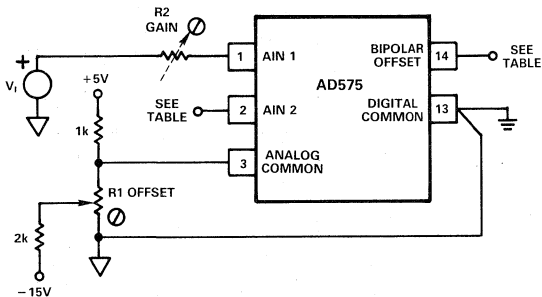
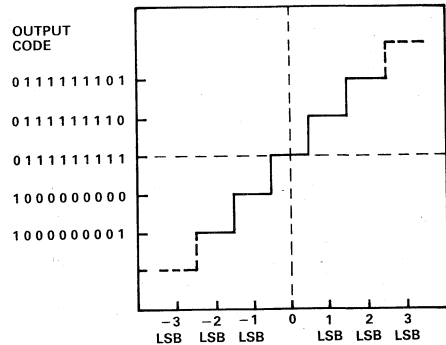

Figure 3. AD575 Input Circuit Showing Offset and Gain Adjustment
Figure 4. AD575 Transfer Characteristic (Bipolar Operation)
The AD575 can be configured for unipolar or bipolar operation on 10V span or 20V span input signals. The appropriate input range is selected by connecting pins 2 and 14 according to the table of Figure 3.
The AD575's low offset and gain errors (shown in the Specifications) are adequate for most applications. For these cases, a fixed gain resistor (R2 in Figure 3) is the only external component, in addition to any power supply decoupling that may be required. Pins 3 and 13 should be connected directly together.
Figure 3 shows a trimming circuit that can be used to adjust the offset to zero, using the appropriate value of the R1 potentiometer as shown in the table. If gain trim is required, R2 should also be replaced by the appropriate potentiometer as shown in the table.
- ⊗ If the Gain Error needs to be trimmed, the gain resistor should be replaced with a potentiometer according to Figure 3. The nominal location of the low side transition of the full scale code (000000000) in unipolar mode is full scale minus 1LSB (9.99V for 10V span, 19.98V for 20V span). Once the offset has been adjusted, the full scale range can be set by adjusting the gain potentiometer.
If the bipolar offset control (pin 14) is left open, the AD575 will accept bipolar input voltages with 0V as the nominal bipolar zero point. The input voltage corresponding to the low side transition of the mid-scale code (011111111) is  $-1/2\text{LSB}$  ( $-5\text{mV}$  for 10V spans and  $-10\text{mV}$  for 20V spans). The nominal location of the code transitions are therefore offset by  $1/2\text{LSB}$  as shown in Figure 4. This offset may be adjusted using the trim scheme shown in Figure 3 with a 1.2k $\Omega$  resistor in place of the 1k $\Omega$  resistor shown.